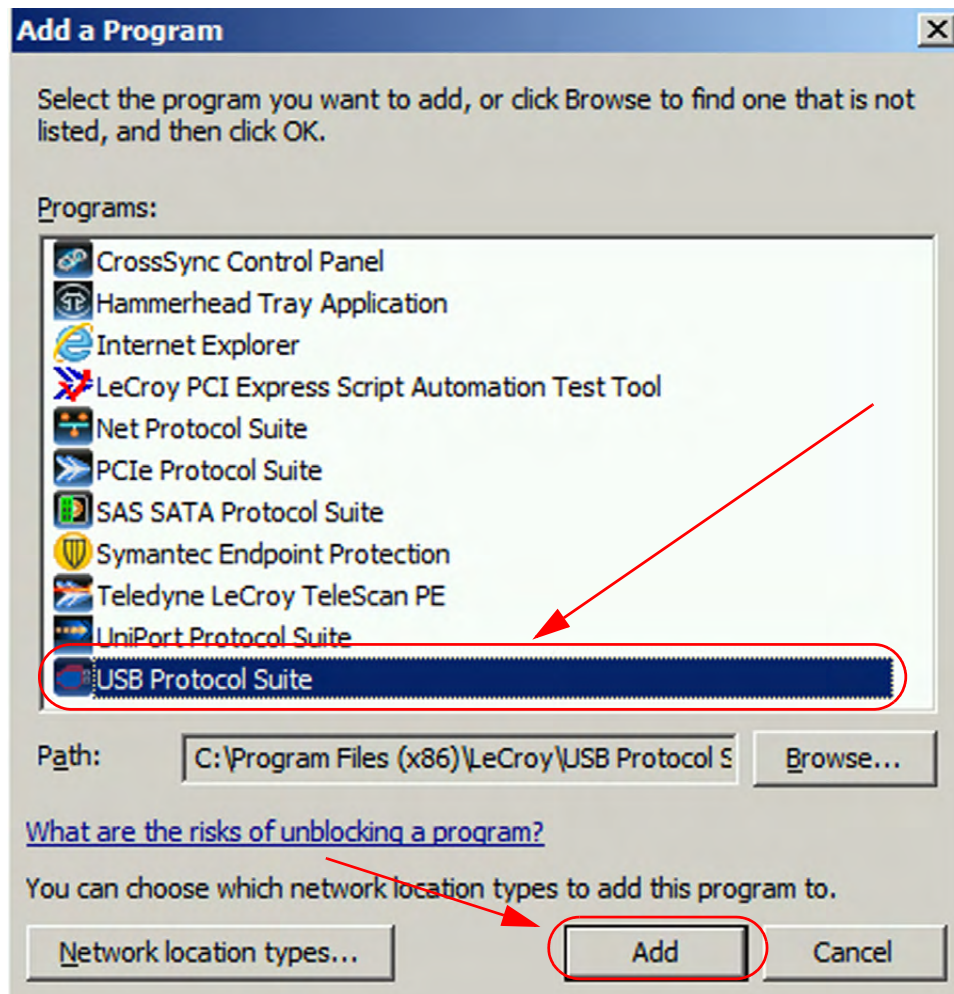

Figure 3.16: Windows Server 2008: Add a Program -> USB Protocol Suite
8. In the “Add a Program” screen, click on “Add” to allow the Teledyne USB Protocol Suite access through the Windows Firewall. See Figure 3.16.